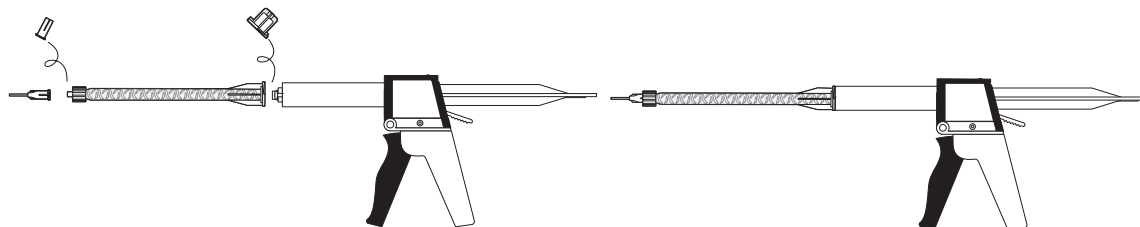

Figure 17 Attaching the Feed Tube and Syringe
4. Twist the feed tube onto the cartridge and attach the syringe tip to the feed tube (Figure 17 on page 37).